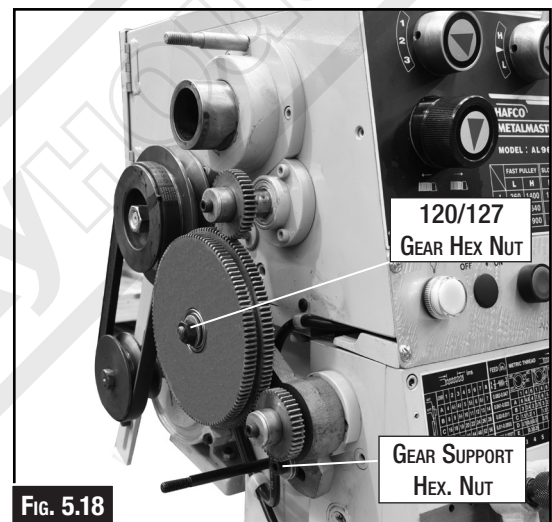

Fig. 5.18
4. While holding the 120T/127T gears, loosen the arm by undoing the gear support hex nut and slowly let the gears pivot down and away from the upper top gear, as illustrated. (Fig. 5.18)
5. Loosen the 120T/127T gear hex nut and slide the middle gear away from the bottom gear. The 120T/127T gears many need to be reversed. Undo the 120T/127T gear hex nut (Fig. 5.18) and reverse the gears.